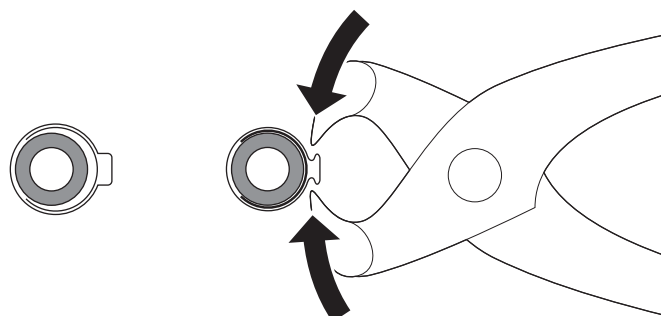

Fig. 25
- ▶ Crimp the single ear clamps with the assembly pliers (Fig. 25).